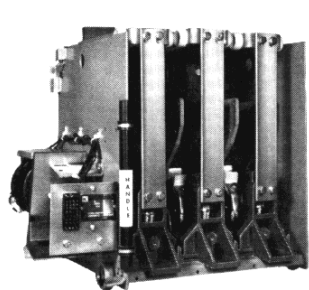

Figure 2A
- Standard contactor assembly as described with solid bus in place of power fuse clips. See Fig. 2A
- Standard contactor assembly as described with solid bus in place of power fuse clips and additional third stab assembly. See Figs. 2A & 2C